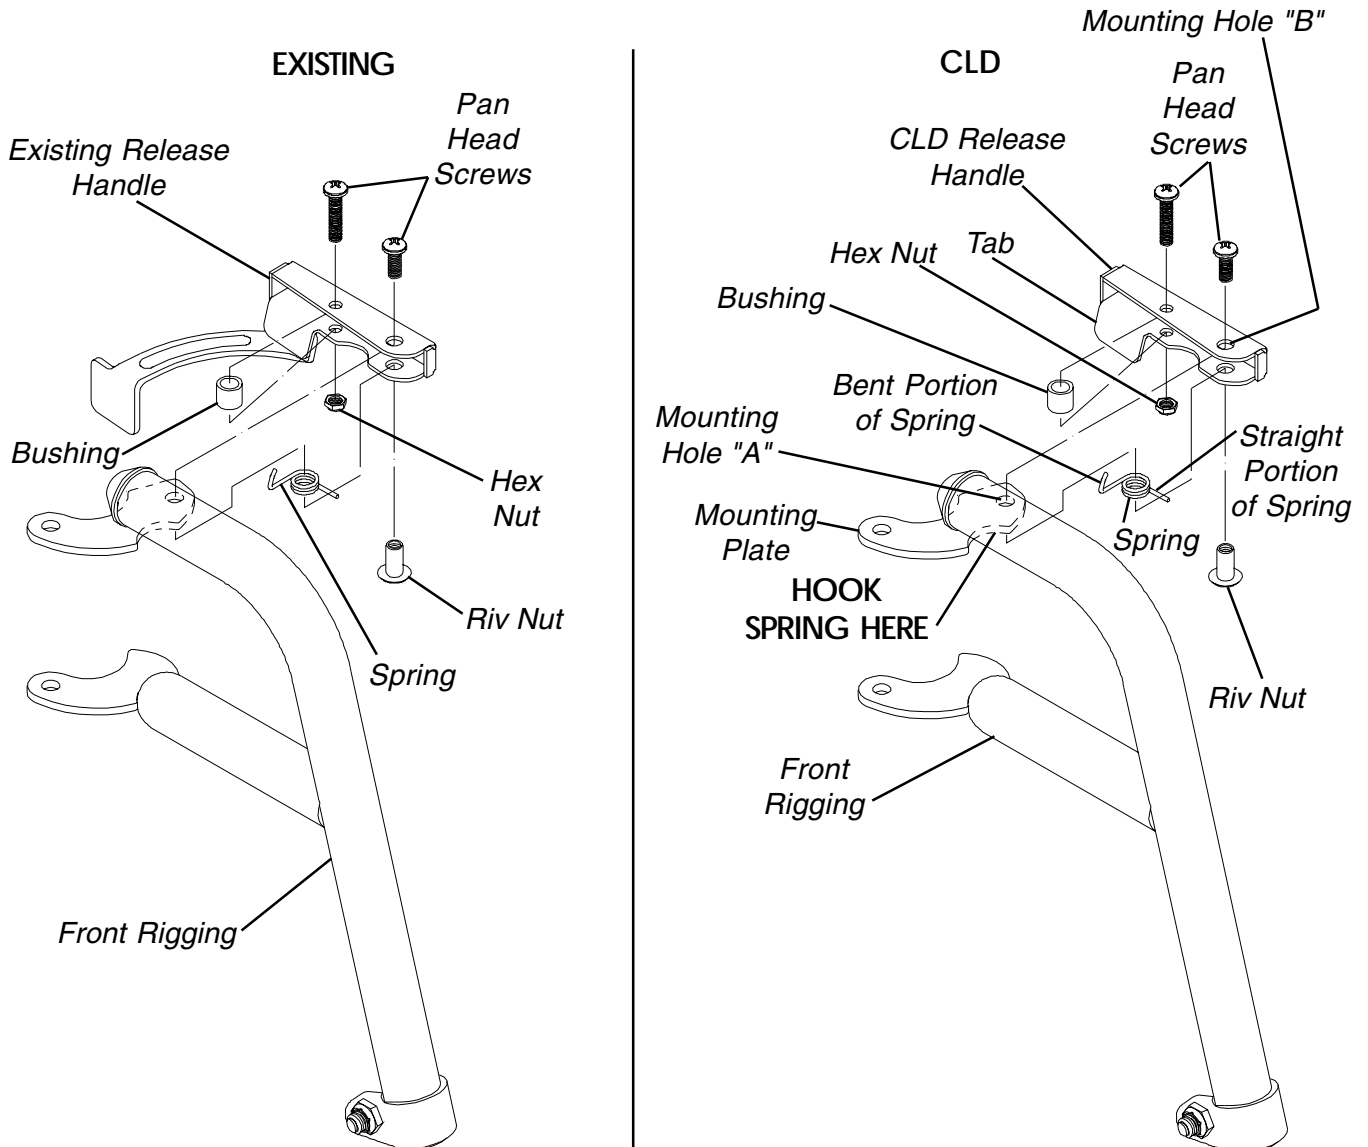

FIGURE 1 - INSTALLING CLD FRONT RIGGING RELEASE HANDLE
INSTALLING CLD FRONT RIGGING RELEASE HANDLE (FIGURE 1)
1. Remove the two (2) pan head screws, hex nut, riv nut, bushing and spring from the EXISTING front rigging release handle and retain for later use.
2. Position the bushing between the two (2) mounting holes near the tab on the CLD release handle.
5. Position the hole in the spring UNDER mounting hole "A" in the orientation shown in FIGURE 1.
NOTE: The bent portion of the spring should hook over the mounting plate as indicated in FIGURE 1 and the straight end of the spring should rest inside the CLD release handle and point away from the tab.